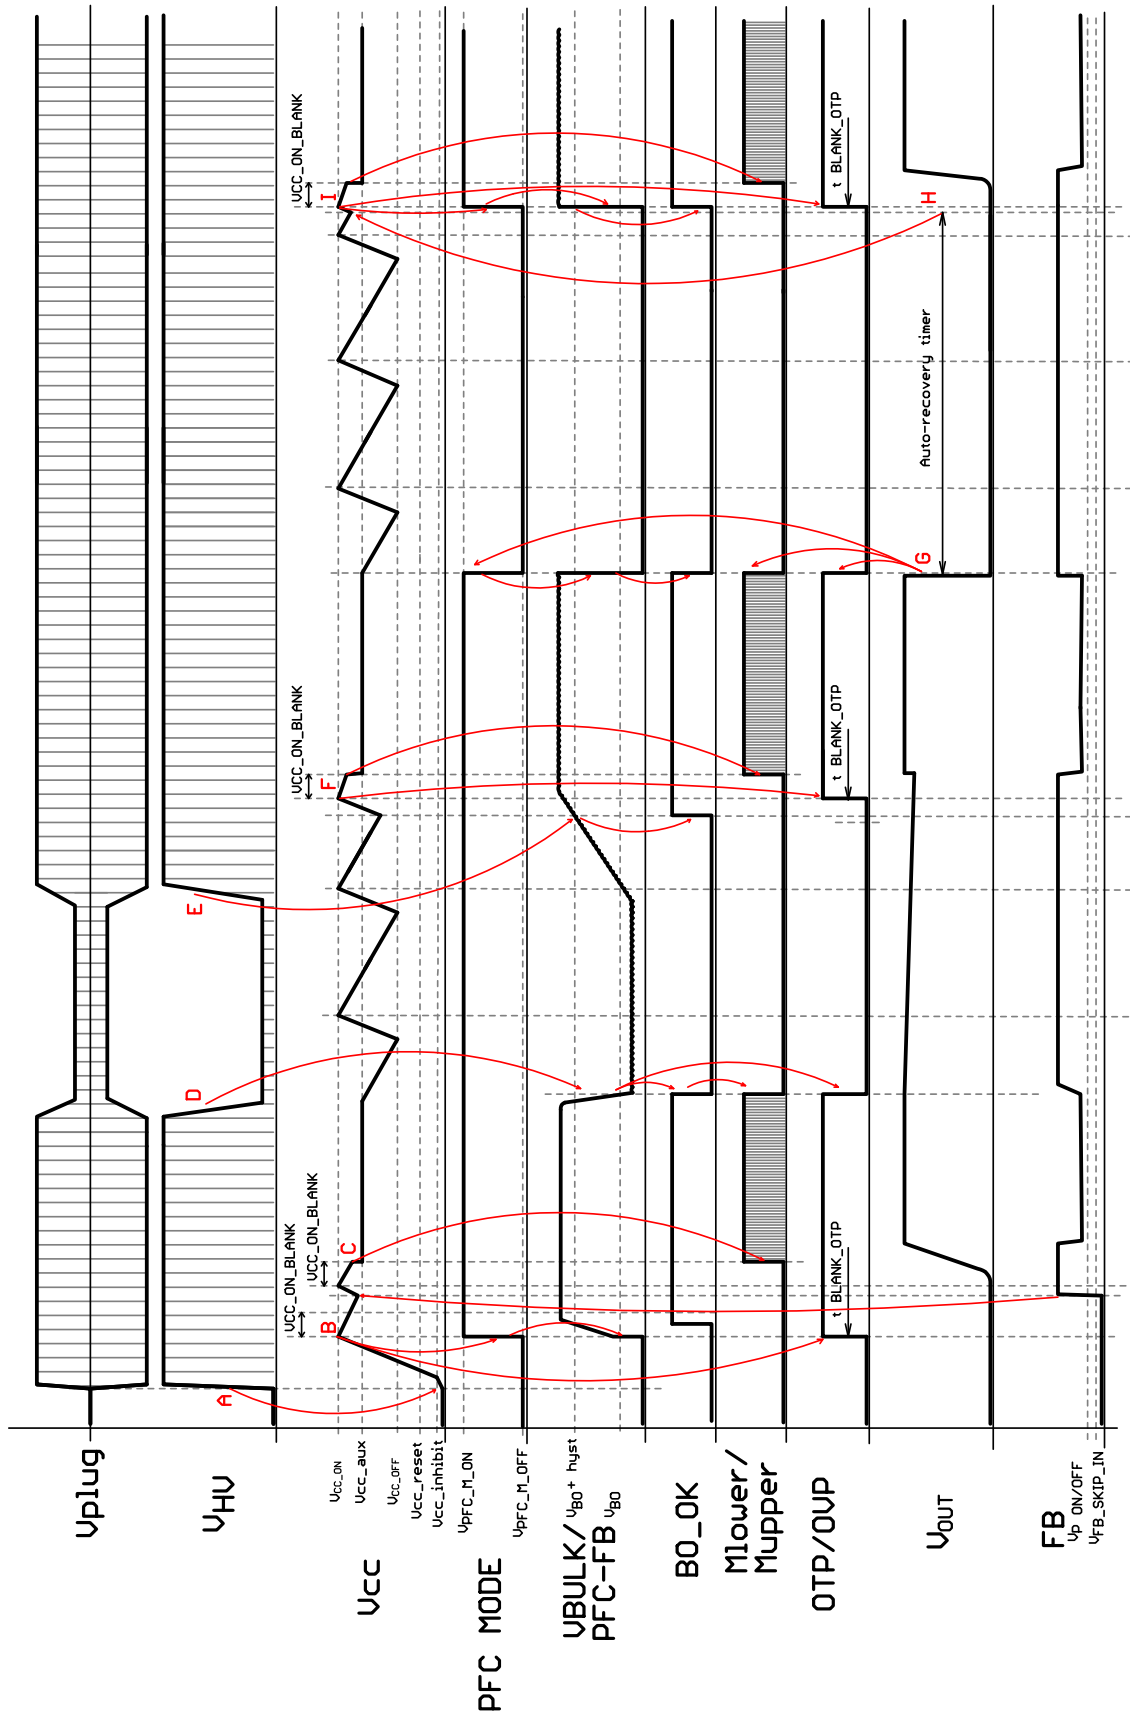

Figure 24. Application Start, Brown-out Off and Restart, Output Short Fault with Auto-recovery Restart
2. Application start, Brown-out off and restart, output short fault with auto-recovery restart – Figure 24